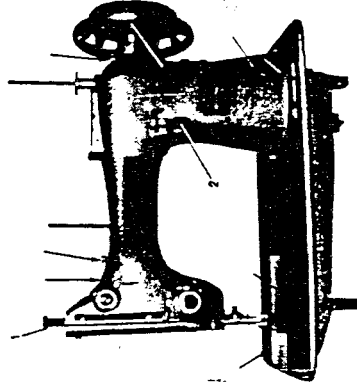

Fig. 7
The arrows on the figures 7, 8, 9, 10 and 11 indicate these spots. Oiling must be done at least twice daily when the machine is in continuous operation to assure free running and durability of the operating parts.
**ADJUSTING THE PRESSER FOOT PRESSURE (Fig. 7)**
**ADJUSTING THE STITCH LENGTH (Fig. 7)**